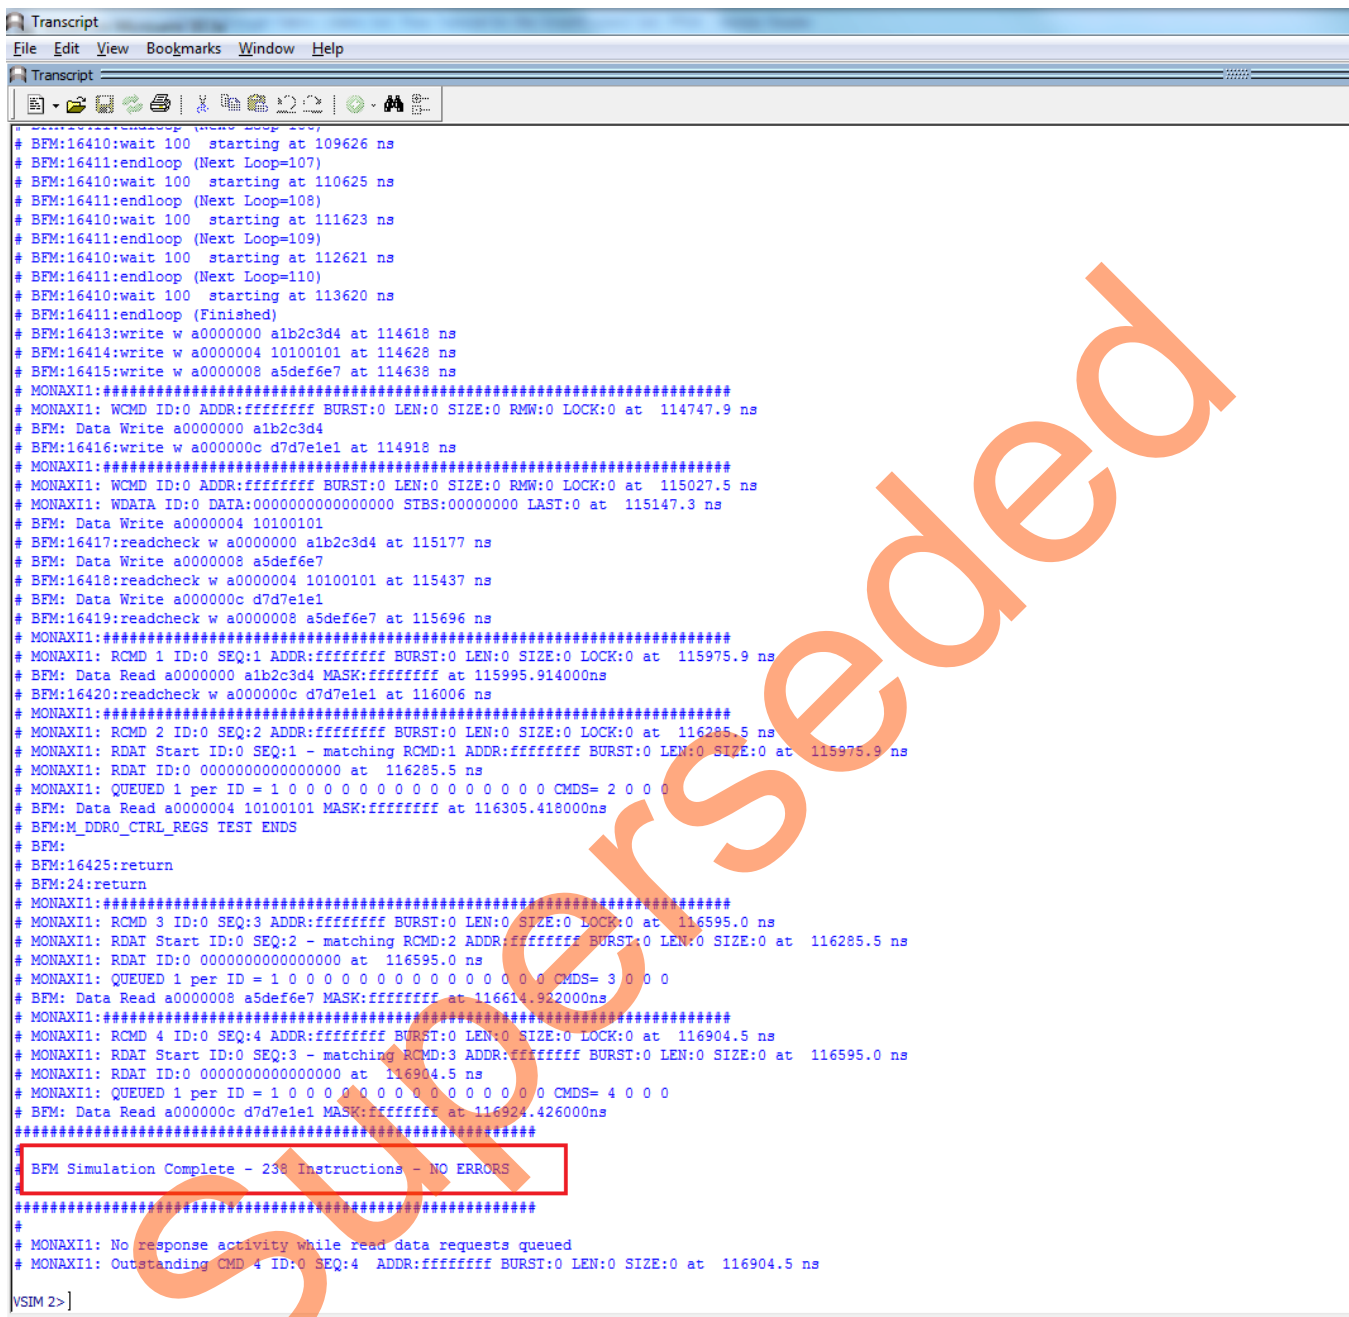

Figure 40. Transcript Window
5. The simulation results can also be seen on the **Transcript** window of ModelSim, as shown in Figure 40.